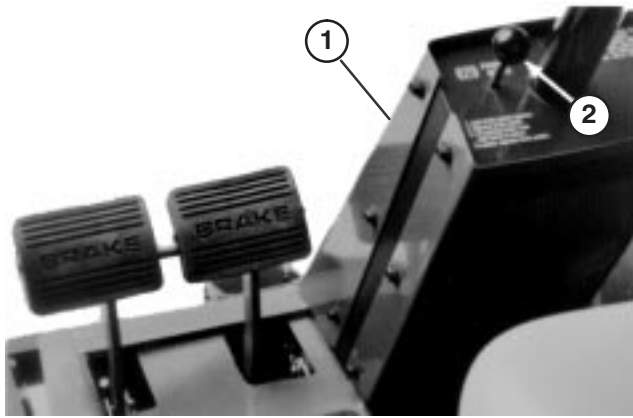

Figure 46
2. Remove (6) screws securing front steering tower cover to frame and remove cover (Fig. 46).